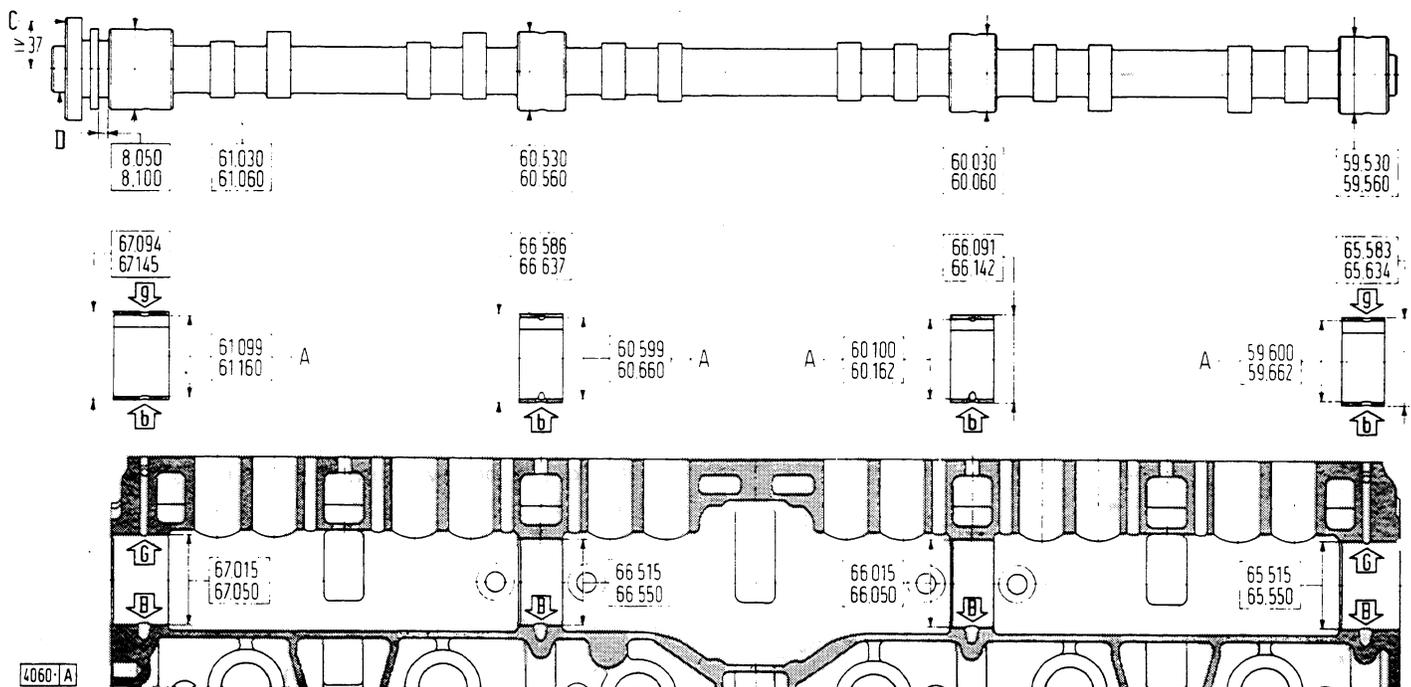

Fig. 21 - Camshaft, Bearing and Housing Dimensions
- Turn the bushes so that the associated retaining screws (27, Fig. 20) line-up with the relevant holes, and holes (B and G, Fig. 21) line-up with crankcase lubricating ways (b and g) respectively.
Check both camshaft journals and associated bearings (see Fig. 21) for wear and excessive running clearance (see Data Table).
the flange face at approximately 37 mm. (1.456 in.) from the centreline (C, Fig. 21).